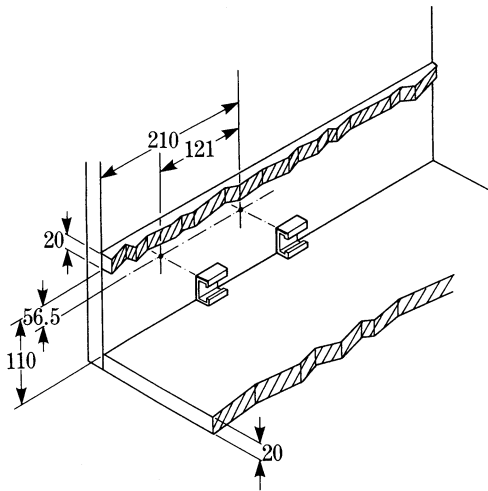

FIG. 10
3) Secure the guide supports to both sides of the cabinet walls at dimensions given in Fig. 10.